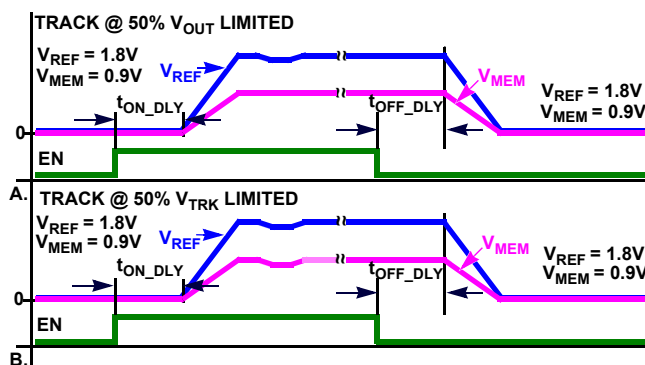

FIGURE 20. RATIOMETRIC TRACKING
- a. Track at 50% V_{OUT} limited. Member rail tracks the reference rail and stops when the member reaches 50% of the target voltage, Figure 20 (A).
- b. Track at 50% VTRK limited. Member rail tracks the reference at the instantaneous voltage value applied to the VTRK pin until the member rail reaches 50% of the reference rail voltage, or if the member is configured to less than 50% of the reference the member will achieve its configured target, Figure 20 (B).
Tracking Configuration Figure 20 (A)
Tracking Configuration Figure 20 (B)